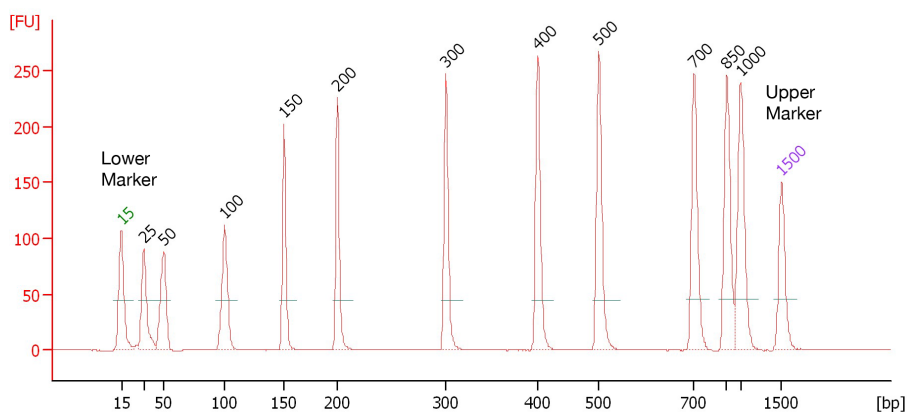

Figure 2: Example of an electropherogram of the ladder well showing all 13 peaks.
7.6.1. The electropherogram of the ladder well is expected to resemble the electropherogram in Figure 2. Major features of a successful run are: